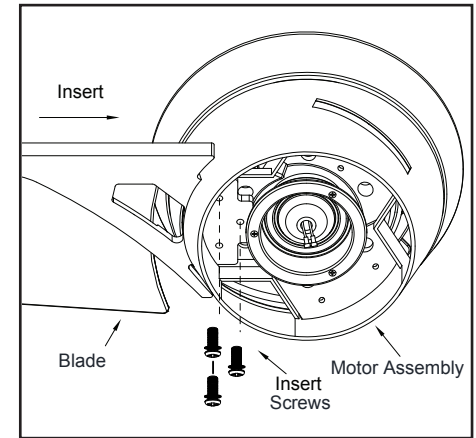

Figure 13
1. Attach the blade to the the fan motor assembly, align the screw holes in the blade with the screw holes above and under the motor assembly, and secure screws. (Figure 13)